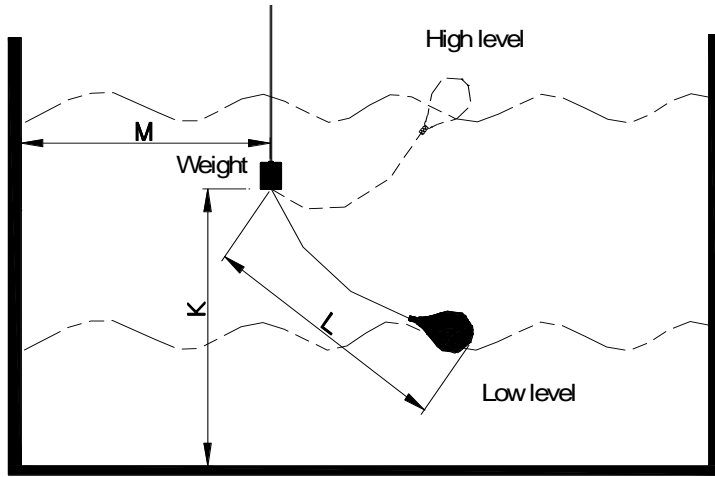

Figure 1
1. Shown as Fig. 1, the movement weight and float body installation requirements:  $K > L$  and  $M > L$ , to prevent the float body to crash against side wall or bottom of tank, sink and result in failure of the float.